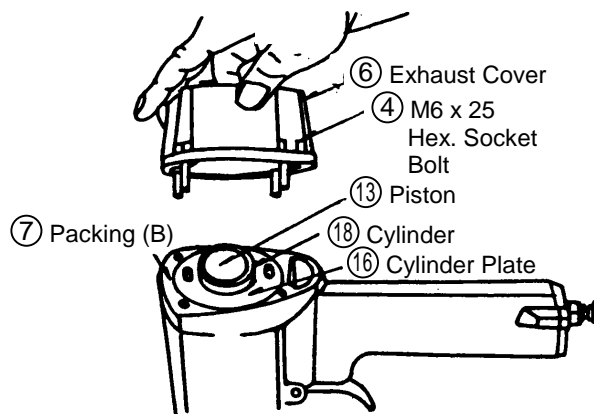

Fig. 11 Disassembly of Upper Part of main body
(1) Disassembly:
- By removing the four M6 x 25 Hexagon Socket Hd. Bolts (4) and taking off the Exhaust Cover Ass'y (6) and Cylinder Plate (16), Packing (B) (7), the Cylinder (18), and the Piston Ass'y (13) can be removed. (see Fig. 11)